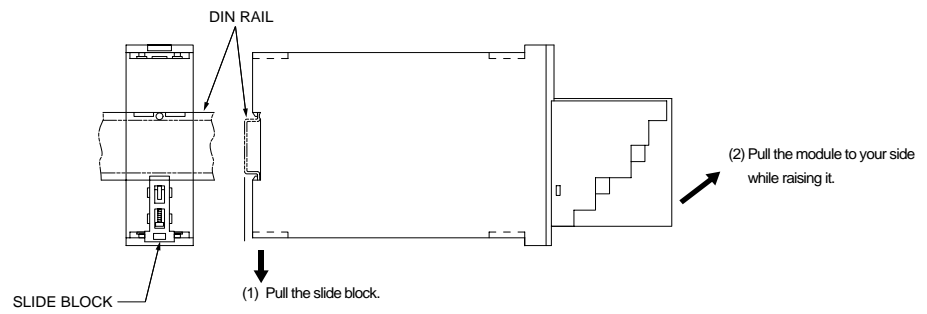

Fig.4-7.
- (3) To remove the module, observe the instructions given in Fig.4-7.